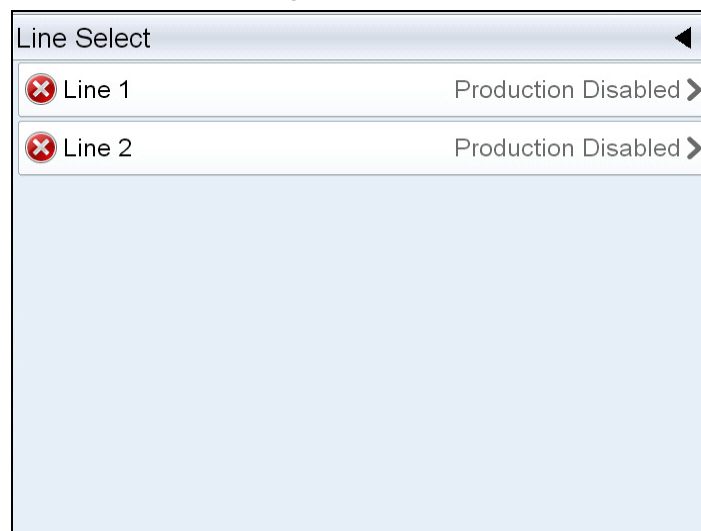

Figure 6-28: Line Select
- a. Select *Line 1* (see Figure 6-28).